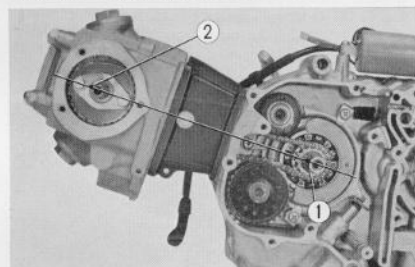

Fig. 3.16 Removing the camshaft
8. Rotate the crankshaft so that woodruff key ① is aligned with the 3×5.2 dowel pin hole in the camshaft and then remove the camshaft by unscrewing the two bolts. (Fig. 3.16)